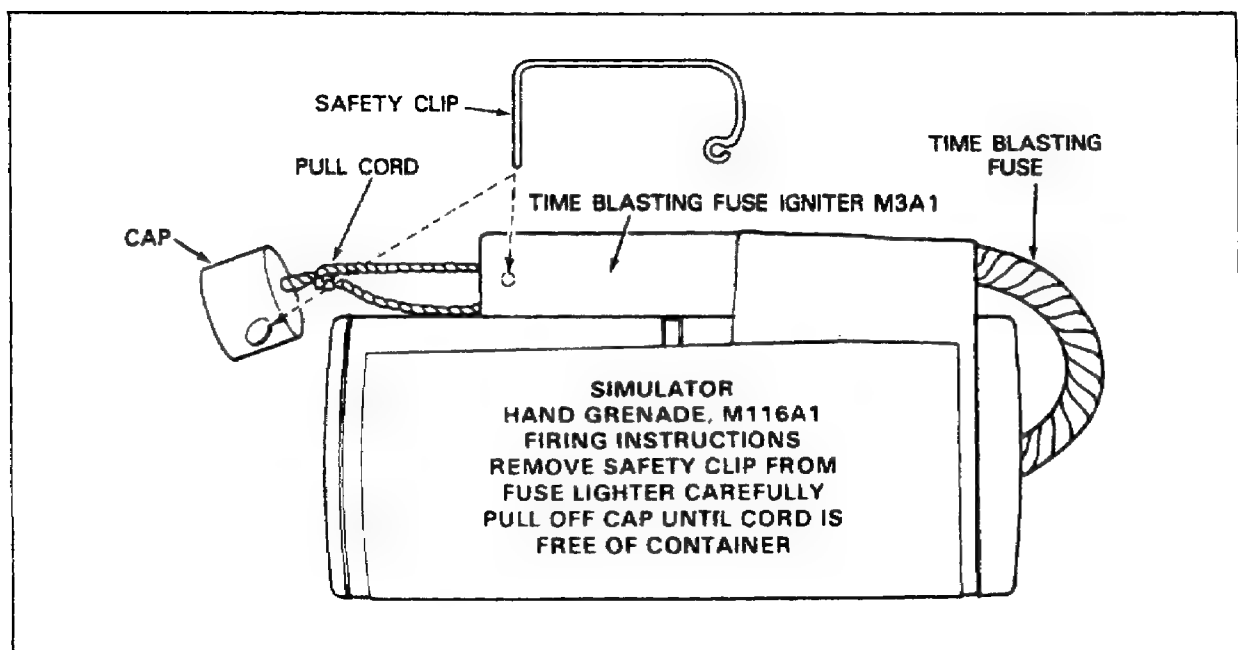

Figure 108. Simulator, Hand Grenade, M116.
**Simulator, Hand Grenade, M116.** The M116 hand grenade simulator (Figure 108) consists of a sealed paper cylinder slightly longer than 4 inches and slightly more than 2 inches in diameter. It contains a small charge of photoflash powder, and it has a short delay fuse and a fuse igniter. It is used to simulate battlefield noises and effects. The body is gray. It has a white label with black markings.